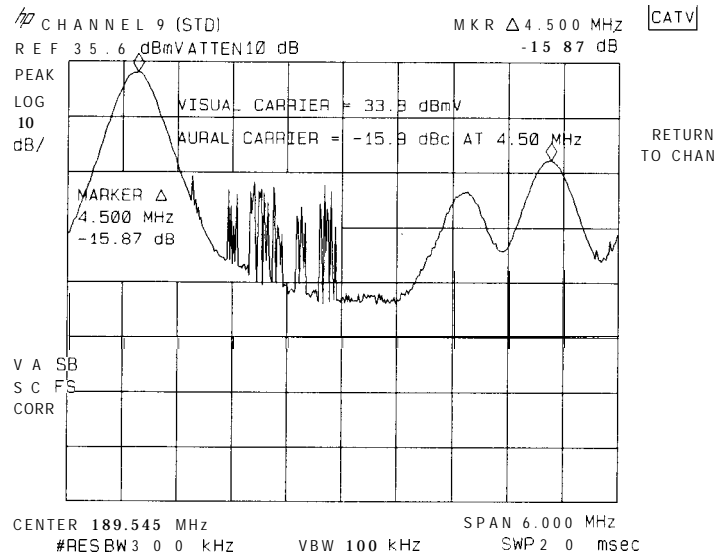

Figure 2-5.
1. Select a channel, then press **CARRIER LEVEL**. The peak visual carrier level and visual-to-aural carrier ratio appear on the screen as shown in Figure 2-5.